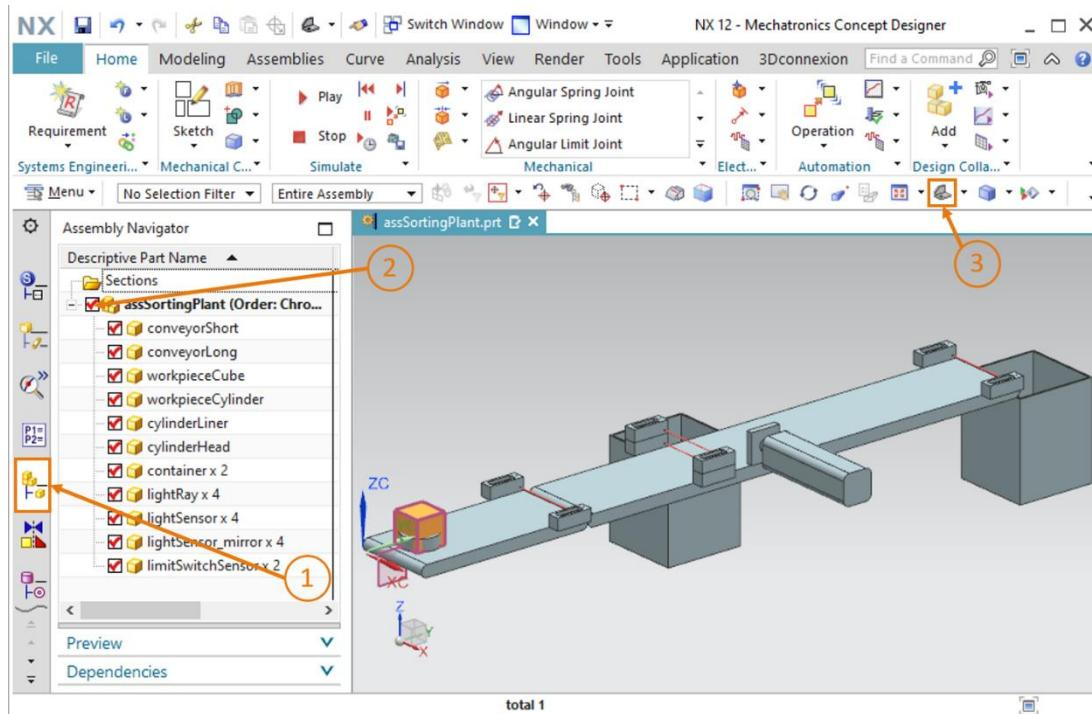

Figure 25: Creating the collision body for workpieceCube – Displaying the assembly
- As described previously in "**Section: Hiding/displaying components and assemblies**", go to the "Assembly Navigator" tab in the Resource bar and activate the "**assSortingPlant**" assembly by clicking on the gray check mark (see Figure 25, steps 1 + 2). Then, switch back to the trimetric view so that you see all of your model again (see Figure 25, step 3).